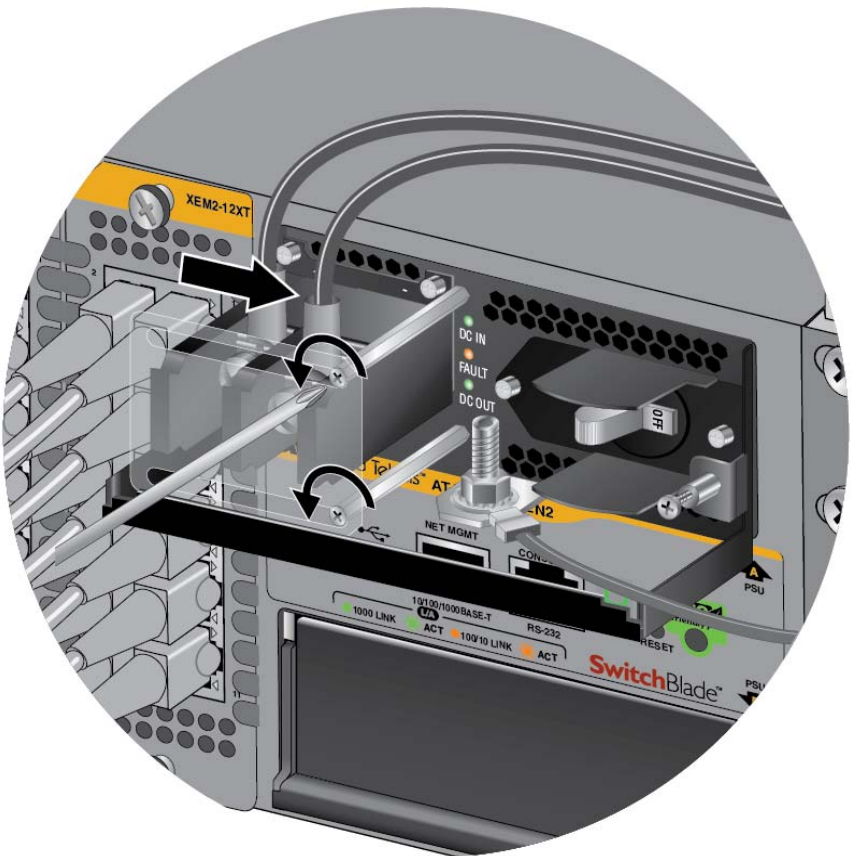

Figure 97. Opening the Plastic Window over the Terminal Block
4. Use a #1 screwdriver to loosen the two screws that secure the plastic cover over the terminal block and slide the cover to the right. You may need to slightly lift the locking handle to access the bottom screw. Refer to Figure 97